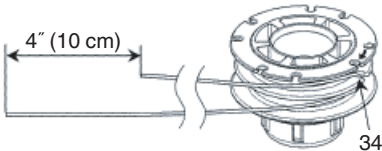

Fig. 30
(2) After removing the case, take out the reel and discard the remaining line.
(3) Fold the new nylon line unevenly in half as shown in picture.
Hook the U-shaped end of the nylon line into the groove (34) on the center partition of the reel. Wind both halves of the line on the reel in the same direction, keeping each half of the line on its own side of the partition. (Fig. 30)